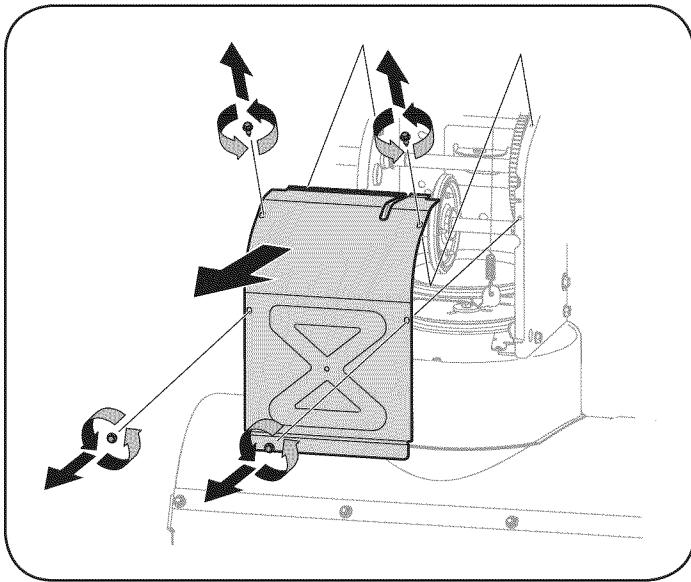

Figure 24
5. Remove the frame cover from the underside of the snow thrower by removing four self-tapping screws which secure it. See Figure 24.